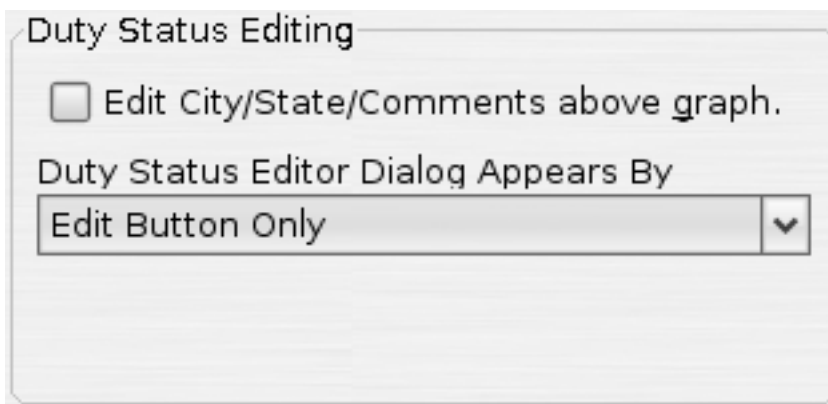

Figure 5.19. Above graph duty status editing settings
2. Under the "Duty Status Editing" settings to enable above log graph editing check the "Edit City/State/Comments above graph" check box see Figure 5.19, “Above graph duty status editing settings”